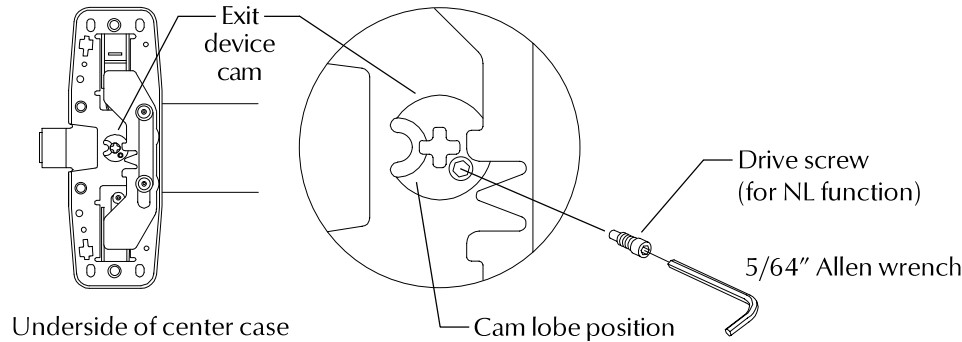

Figure 2. Install drive screw for NL function.
13. Install the drive screw in exit device cam so trim functions as NL (Figure 2).